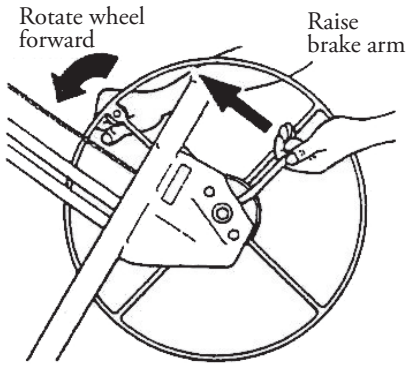

Fig. 3
- Hold the winch wheel and brake arm as shown in fig 3. Rotate the winch wheel forward slightly while you lift on the brake arm to release the brake.